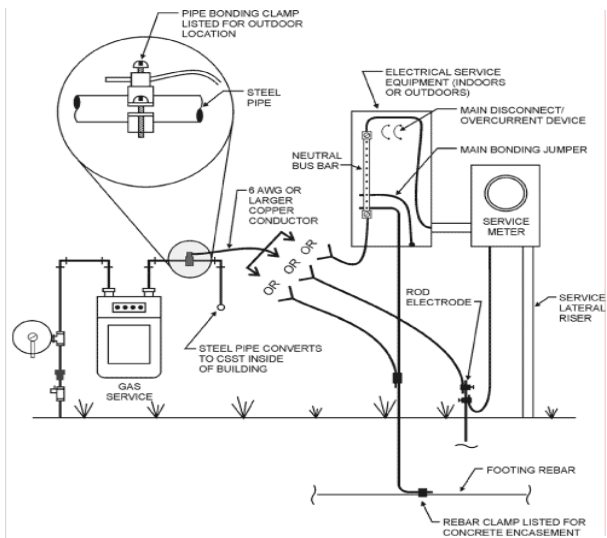

Figure 3: CSST Bonding
7. Corrugated Stainless Steel Tubing (C.S.S.T.): Approved corrugated stainless steel tubing may be used for gas piping provided it is part of a system where tubing and fittings have been tested and listed for such gas piping system. System shall be installed as per manufacturer's installation instructions and local codes. All new installation of CSST piping systems are required to be bonded to the electrical service grounding electrode system at the point where the fuel line enters the building with a minimum 6AWG copper wire or equivalent. The bonding requirements are intended to reduce the chances of damage to the CSST from lightning induced electric energy. Refer to **Figure 3** for bonding requirements. (IFGC 404.2)